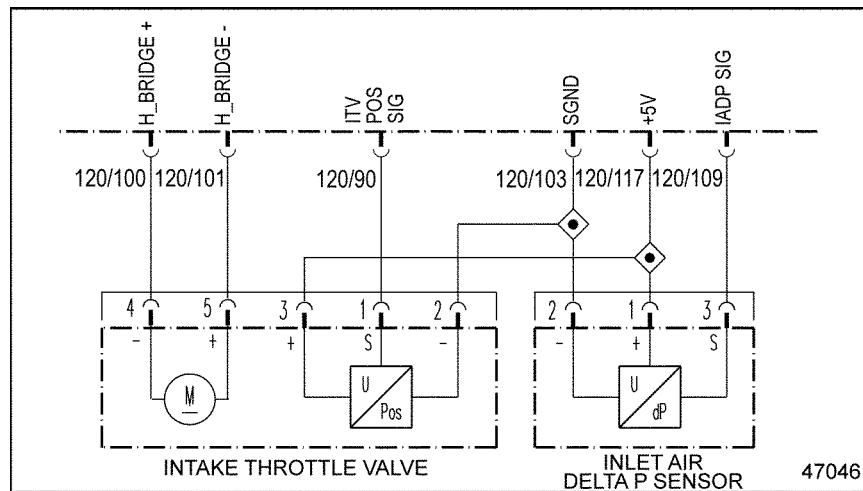

Figure 21-3 Intake Air Delta P Sensor
3. Measure the resistance between pins 1 and 2 of the Intake Air Delta P Sensor. See Figure 21-3.